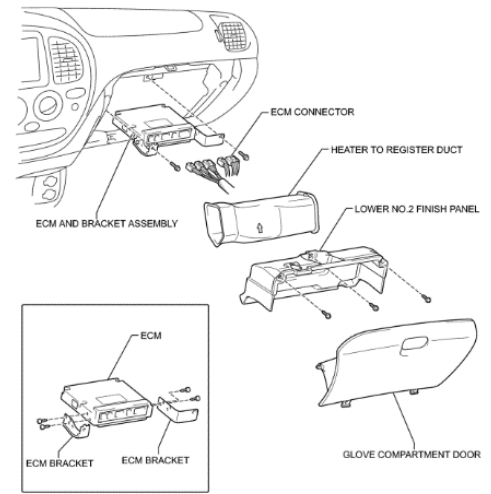

Figure 1 - ECM Location
- 1) Access the ECM located under the passenger side dash by removing the glove box as shown in Figure 1.